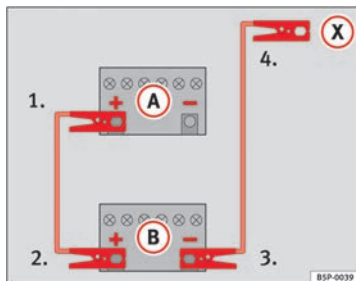

Fig. 226 How to connect the jump leads
On ⇒ fig. 226 (A) shows the flat battery and (B) the charged battery.
- 1. Connect one end of the red jump lead to the positive ⇒ fig. 226 (+) terminal of the vehicle with the flat battery ⇒ ⚠.
- 4. Connect the other end of the black jump lead (X) to a solid metal component which is bolted on to the engine block, or onto